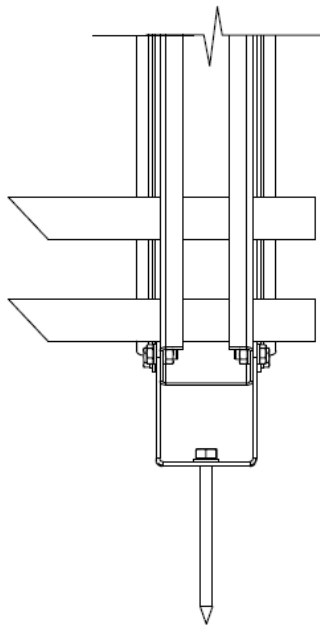

Figure 2.
- Make sure that the U-bracket parts are in the position shown in Figure 2.
- Tighten the screws such that the U-bracket plates hold firmly on the roof material (Figure 2).